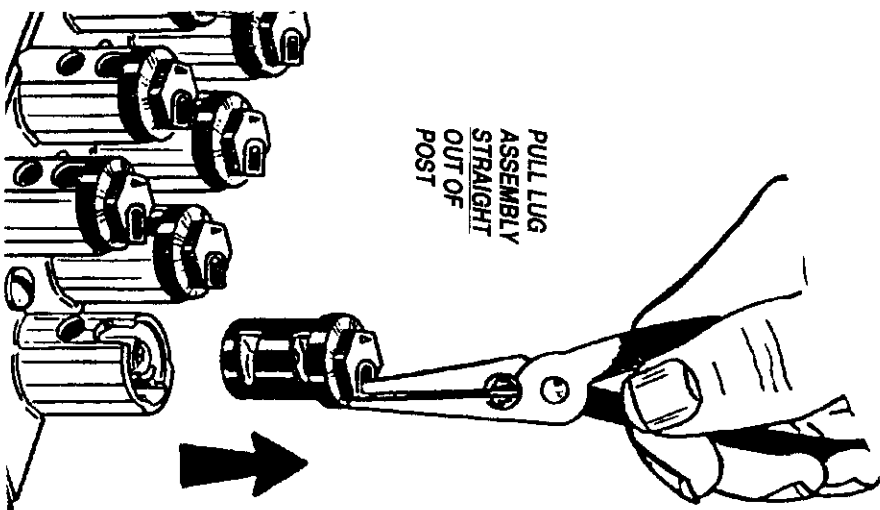

Figure 4
- (d) Pull the lug assembly straight out of the post (see Figure 4).